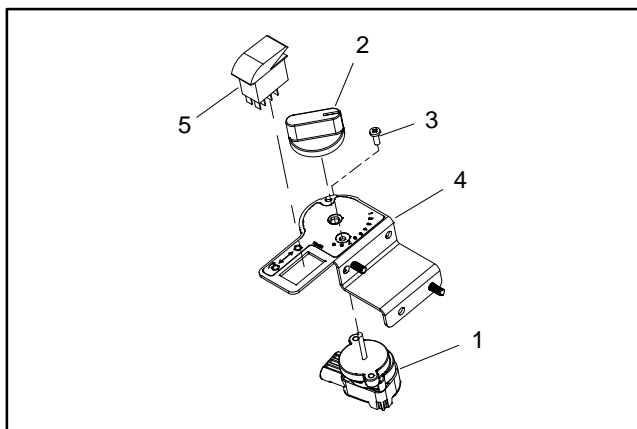

Figure 68
4. Slide knob from shaft of potentiometer (Fig. 68). Remove screws that secure potentiometer to machine and remove potentiometer from machine for testing.